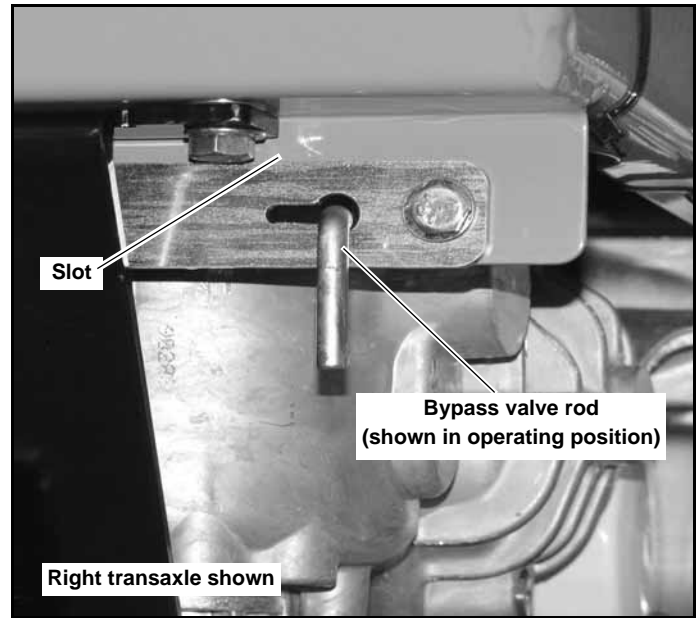

Figure 4-11
3. With the bypass valve open and the engine running, slowly move the H-Bar steering lever in both forward and reverse directions (5 or 6 times). Figure 4-11